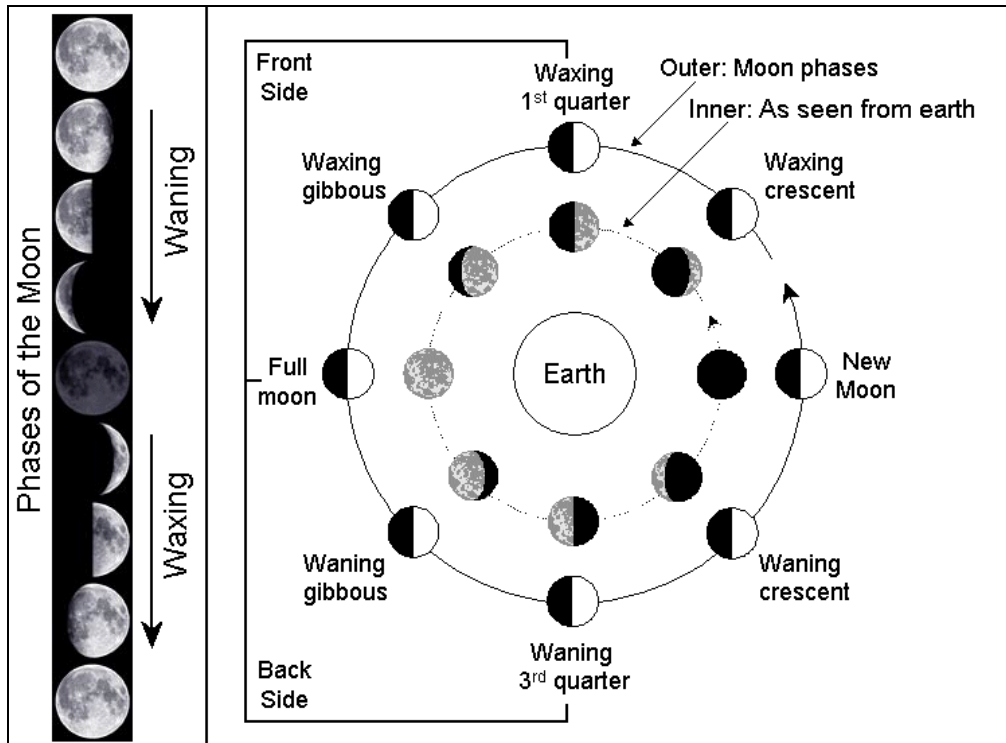

Figure 21 – Lunar phases (left) and cycle (right)
1. The moon is usually the primary source of natural illumination for NVG operations. Although the moon reflects about 7% of the sunlight that strikes it, the amount of light provided by the moon is highly variable, and depends upon the lunar cycle, the moon angle, variations in the earth-moon distance (negligible for NVG considerations), and the lunar albedo (reflectivity). In the latter's case, the moon is about 20% brighter during the first quarter (waxing) than it is in the last quarter (waning) because of differences in the lunar surface (see the moon phases in figure 21, left).
2. The **lunar cycle** (figure 21, right) is the primary lunar illumination factor. The moon goes through several phase changes during its 29.5-day revolution around the earth. The phases are influenced by the season and global position of interest.